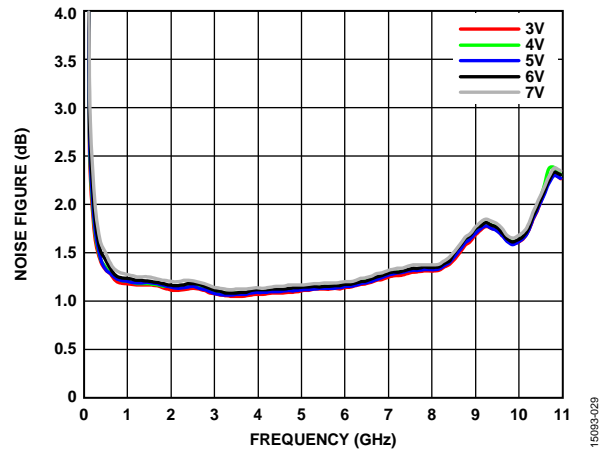
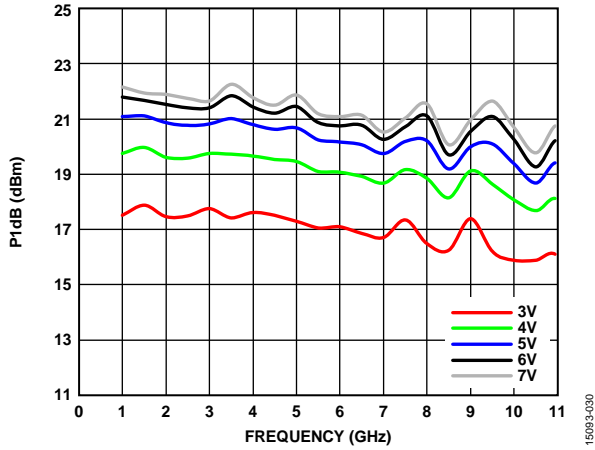
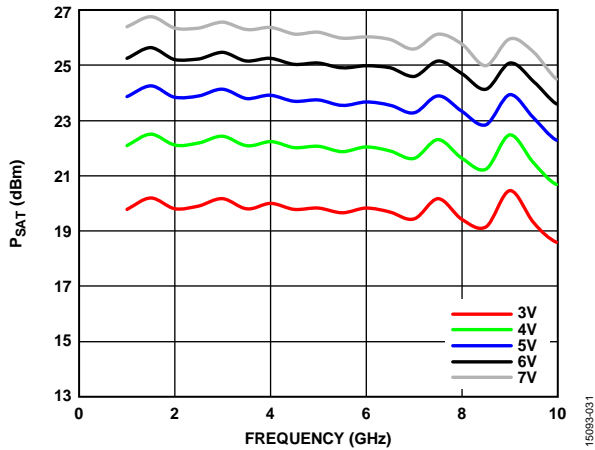

Figure 29. Noise Figure vs. Frequency for Various Supply Voltages,  $I_{DQ} = 65\text{ mA}$
Figure 30. P1dB vs. Frequency for Various Supply Voltages,  $I_{DQ} = 65$  mA
Figure 31.  $P_{SAT}$  vs. Frequency for Various Supply Voltages,  $I_{DQ} = 65$  mA
Figure 29, Figure 30, and Figure 31 show that increasing the voltage from 3 V to 7 V typically increases P1dB and PSAT at the expense of power consumption with minor degradation on noise figure (NF).